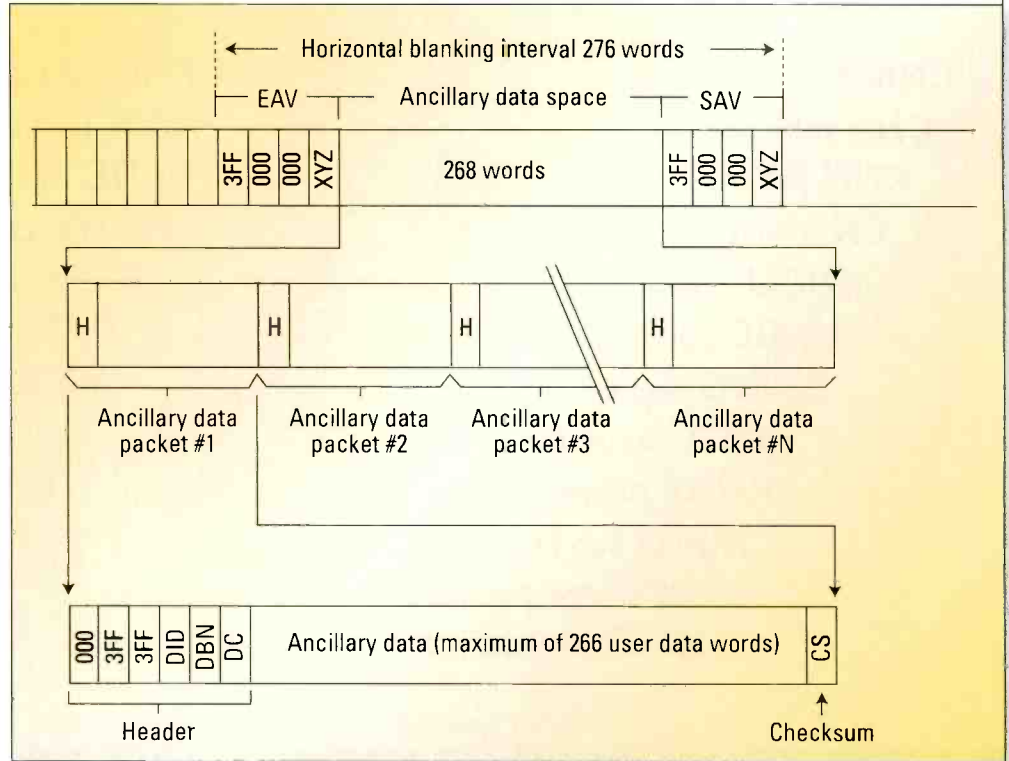

Figure 3. Ancillary data packet structure for 4:2:2 525/59.94 format
Figure 3 shows the ancillary data packet structure for the 4:2:2 component digital interface. Each packet can carry a maximum of 262 10-bit parallel words. A six-word header precedes the ancillary data and contains a three-word ancillary data flag (ADF), marking the beginning of the ancillary data packet (values are 000, 3FF, 3FE, respectively), an optional data identification (DID) word identifying the user data, an optional data block number (DBN) word and a data count (DC) word. A variable number of data words, not exceeding 255, follows. The packet is closed by a checksum (CS) word, allowing the receiver to determine the validity of the packet.